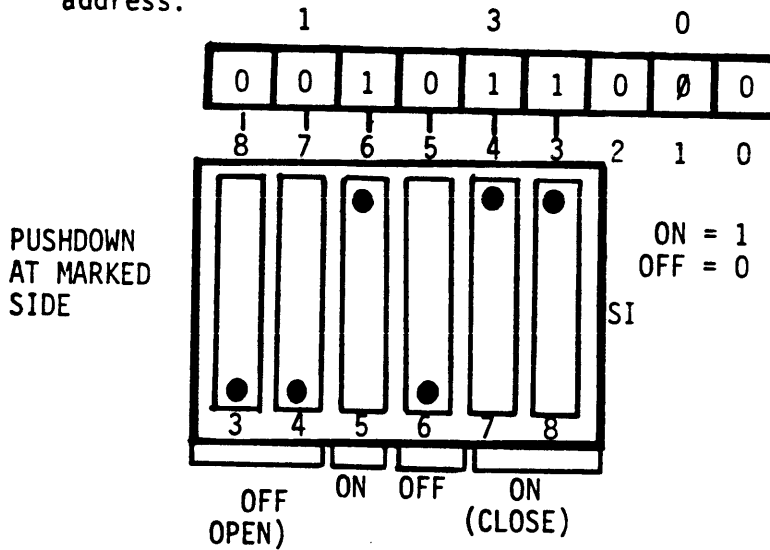

Figure 6.2
6.2 processor with the internal priority being arranged such that the A/D Done interrupt has the higher priority of the two if both occur simultaneously and are both enabled. The interrupt vector address in the  $000_8 - 770_8$  vector address space in  $10_8$  increments. The interrupt vector of the Error Interrupt is then always  $4_8$  locations higher than the A/D Done interrupt vector address. The recommended interrupt vector address for the DT2760 series is  $130_8$  and is set to that value at the factory. Figure 6.2 shows how switch SW2 must be set to generate this address.